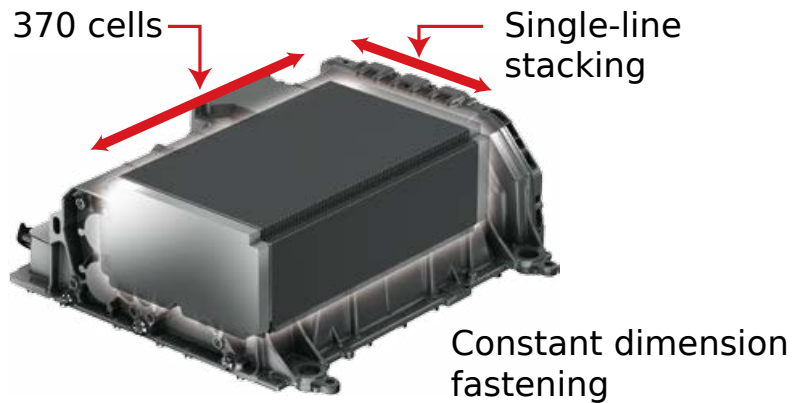

Figure 3: Fuel stack "Toyota FCStack"
- The cell stack (Fig. 3) is made from $n_{cells} = 370$ cells of $d_{cell} = 1.34mm$ thickness each, for a total volume $V_{stack} = 37l$. Estimate the current density I_s on each cell (electrical current per unit area of the cell) for the power computed at question 1.3 and for the maximum power of the stack assuming a voltage difference of $U_{cell} \approx 1V$.